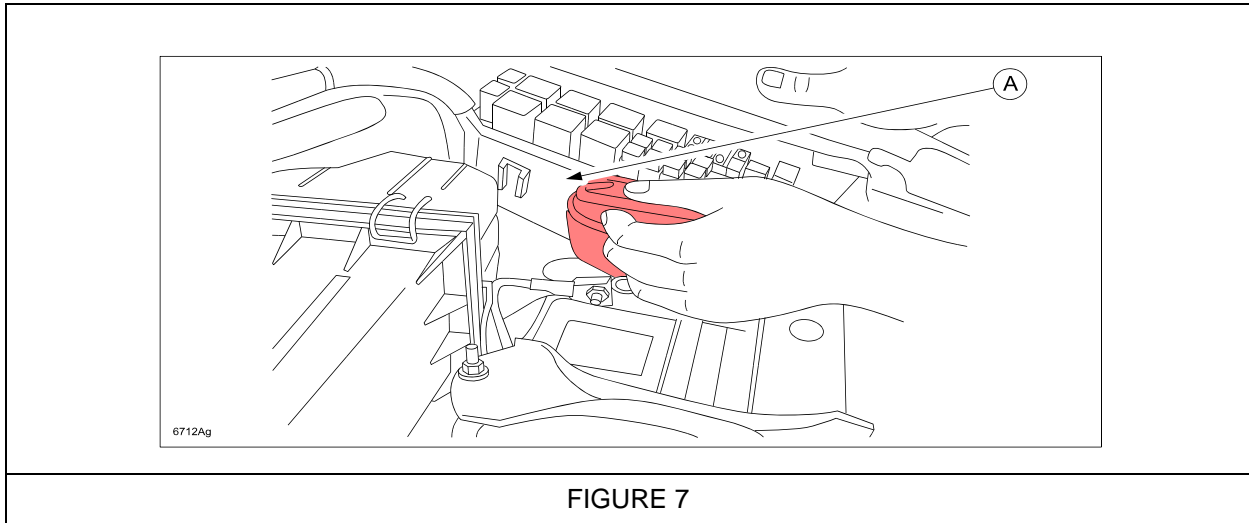

FIGURE 7
1. Spray brake cleaner on a clean shop towel and wipe the side of the PDB (A) to remove all traces of oil and dirt. See Figure 7.